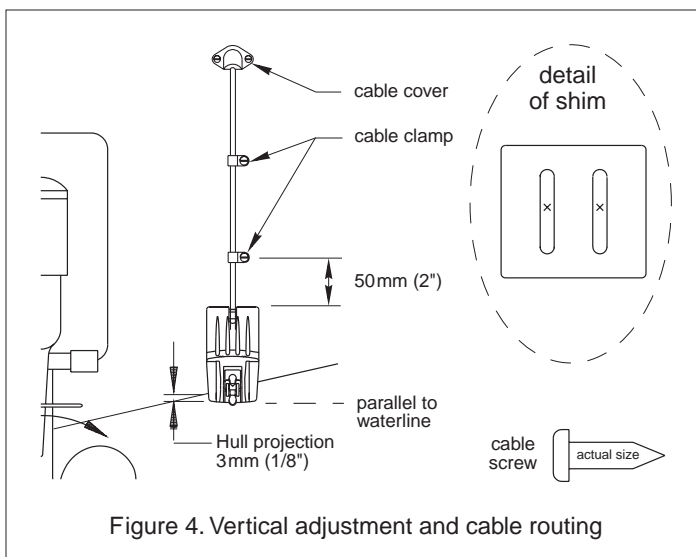

Figure 4. Vertical adjustment and cable routing
1. At the selected location on the starboard side of the hull, position the sensor, so the bottom left corner of the transducer projects 3mm (1/8") below the bottom edge of the transom (see Figure 4).
2. Using the vertical adjustment space in the bracket slots, slide the sensor up or down (see Figure 4). *Be sure* the bottom left corner of the sensor projects 3mm (1/8") below the bottom of the hull.
- If a hole must be drilled through the transom, choose a location **well above the waterline** (see Figure 4). Check for obstructions such as trim tabs, pumps, or wiring inside the hull. Mark the location with a pencil. Drill a hole using the appropriate size bit to accommodate the connector.